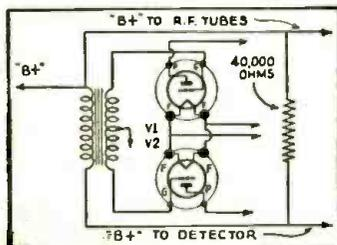

Fig. 1. Defective input transformer.
Fig. 1, left. A—Normal voice frequencies with peak levels below the feedback threshold. B—Voice frequencies exceeding the feedback threshold and causing sustained feedback. C—The envelope of the voice frequency pattern of detail A. D—Envelope of voice frequency pattern bursting into audio howl. E—Envelope of signal fed into the howl suppressor. Note the effect of the suppressor which rectifies the peaks and continually pushes the signal level back to the safe pick-up region. (A) Feedback region. (B) Range of howl suppressor. (C) Areas including (B) of useful operation. F—This curve shows the normal action of a full wave rectifier. The section of the wave below the zero line is transposed above the line by the rectifier. G—This is the action of a biased rectifier
Radiola, Models 80 and 82. The presence of plate voltage on the detector tube of the above receivers does not necessarily indicate a good input transformer! Voltage will be present even if the transformer is completely open. The reason for this is shown in Fig. 1, and knowledge of this fact will save the Service Man a lot of worry and unnecessary testing when working on this particular receiver.